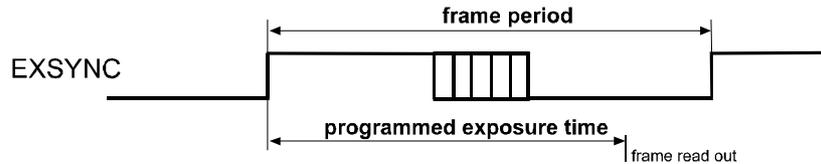

Figure 3-4: Exposure Time Programmable Mode
- In **programmable mode**, the rising edge of ExSync triggers exposure for a time period programmed via the serial interface. The frame is read out and transferred subsequent to the programmed exposure time. The falling edge of ExSync is irrelevant. See Figure 3-4.